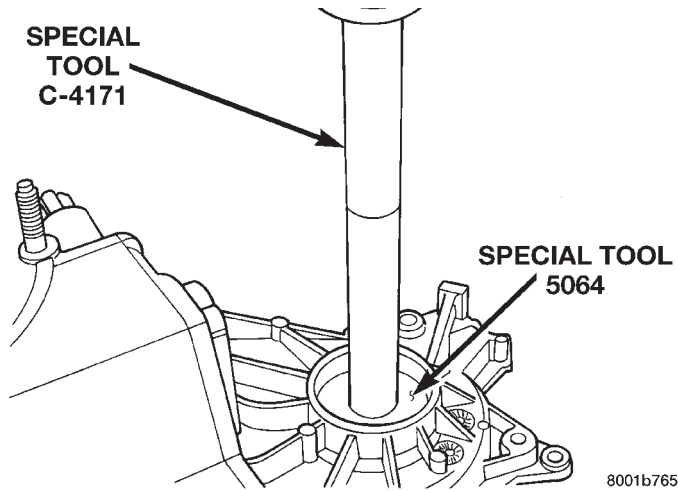

Fig. 43 Front Output Shaft Bearing Installation
(4) Install front output shaft front bearing in case with Tool Handle C-4171 and Installer 5064 (Fig. 43).